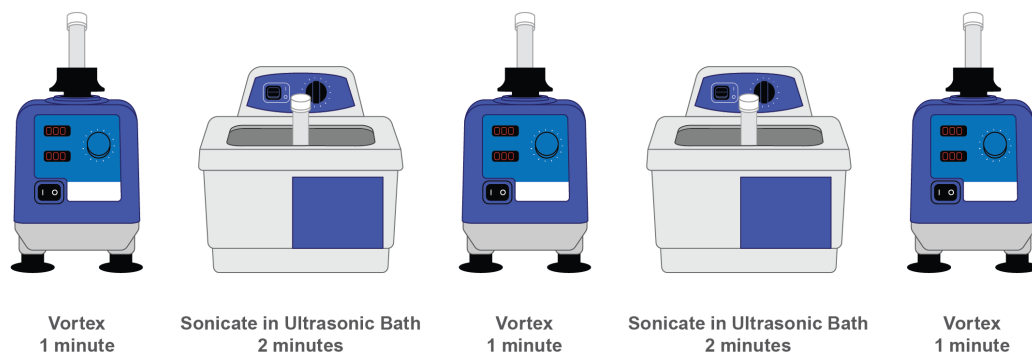

Figure 10: Fiducial preparation
1. Refer to Figure 10 below to vortex and sonicate the fiducials prior to use.
2. Once fiducials are prepared as in Figure 10, dilute the fiducial stock to the appropriate working concentration: